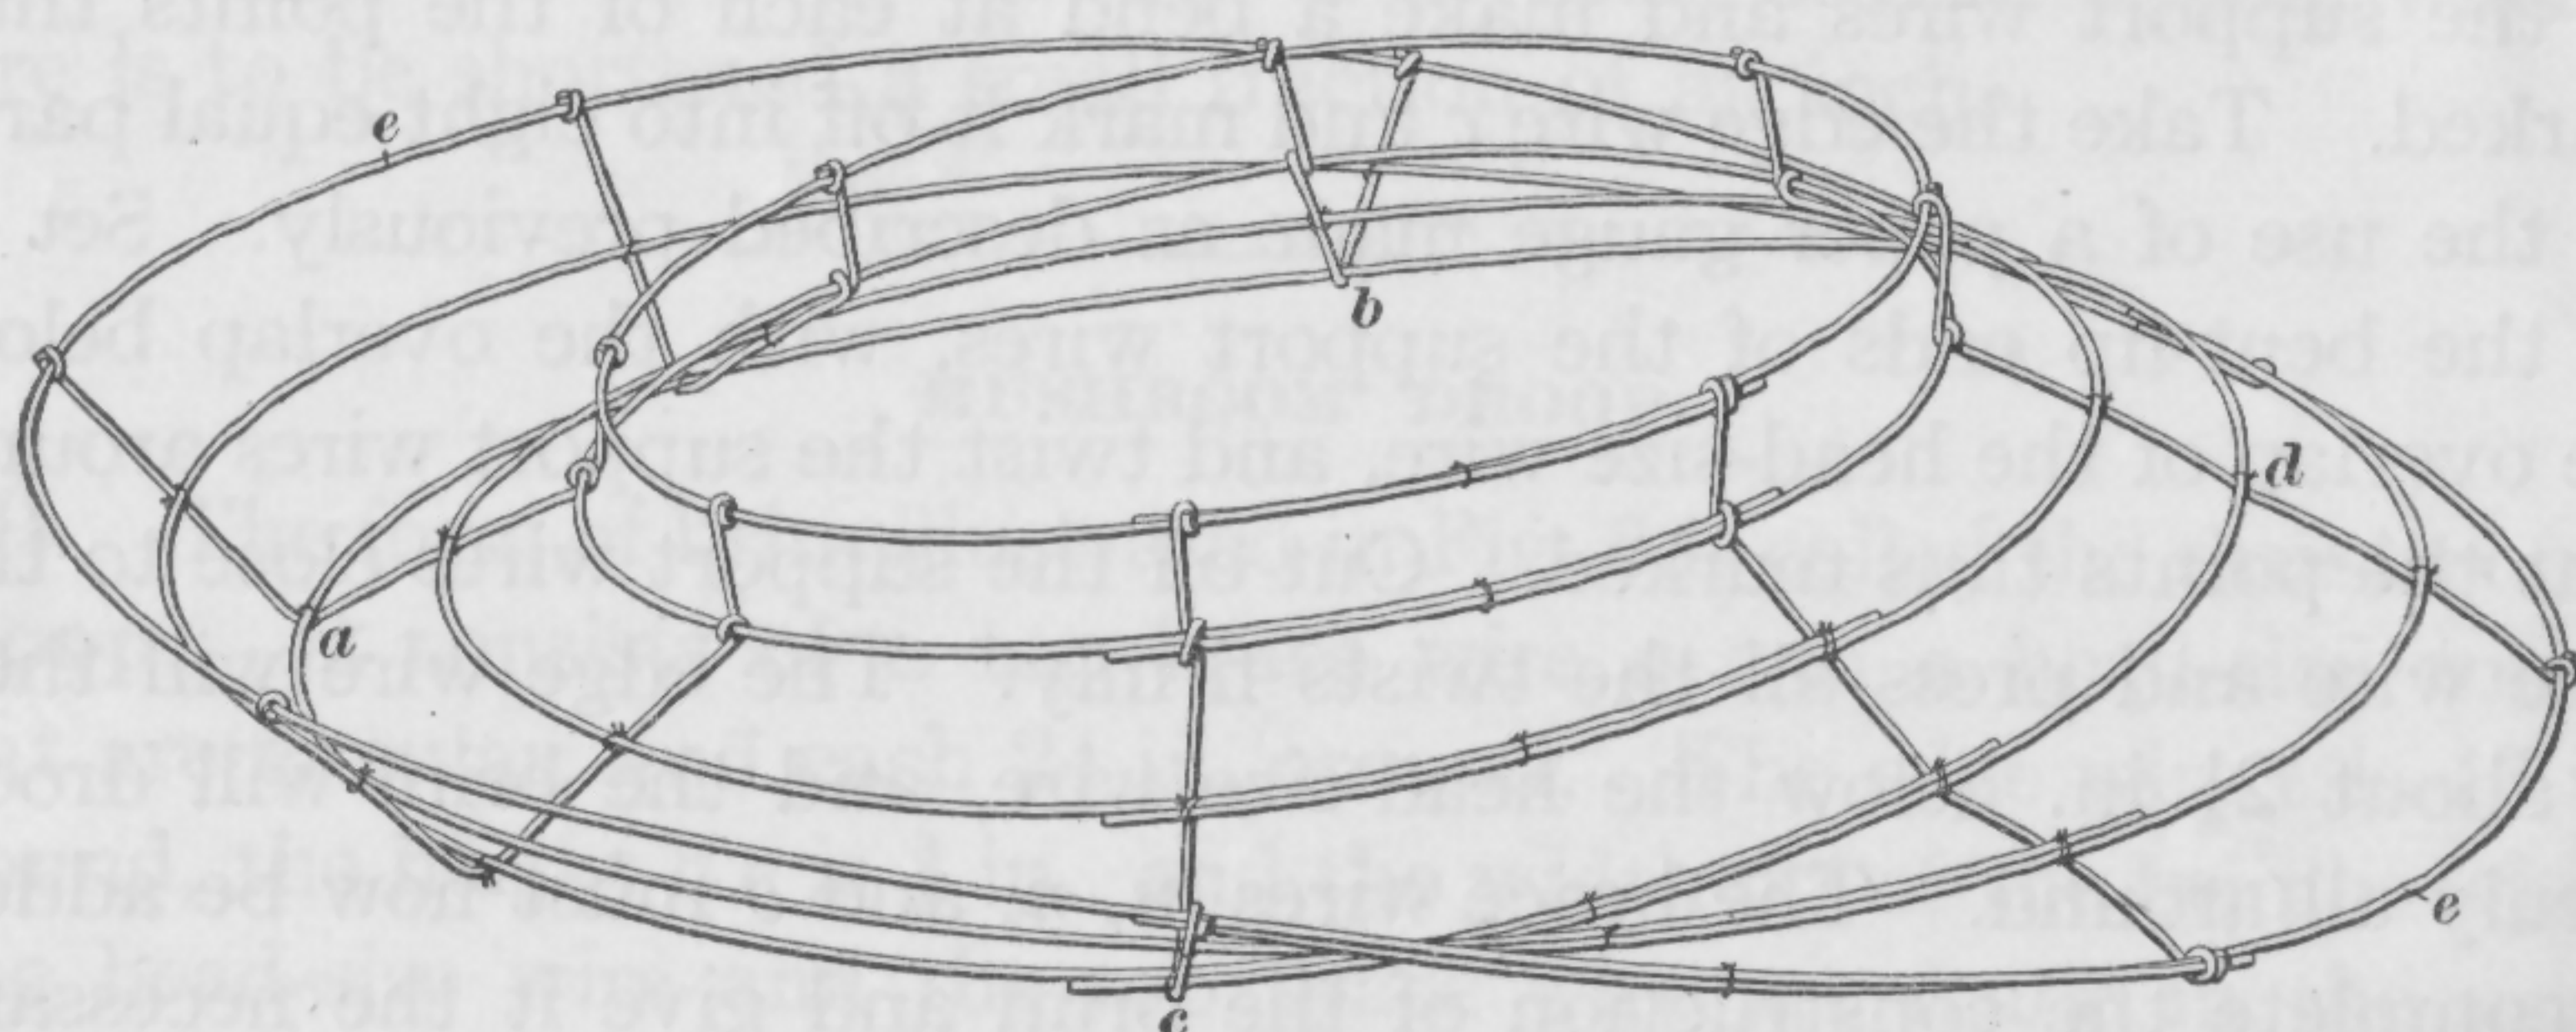

FIG. 8
12. Another variation of shape of the mushroom droop is shown in Fig. 8, in which one side only is turned up, the other side remain-